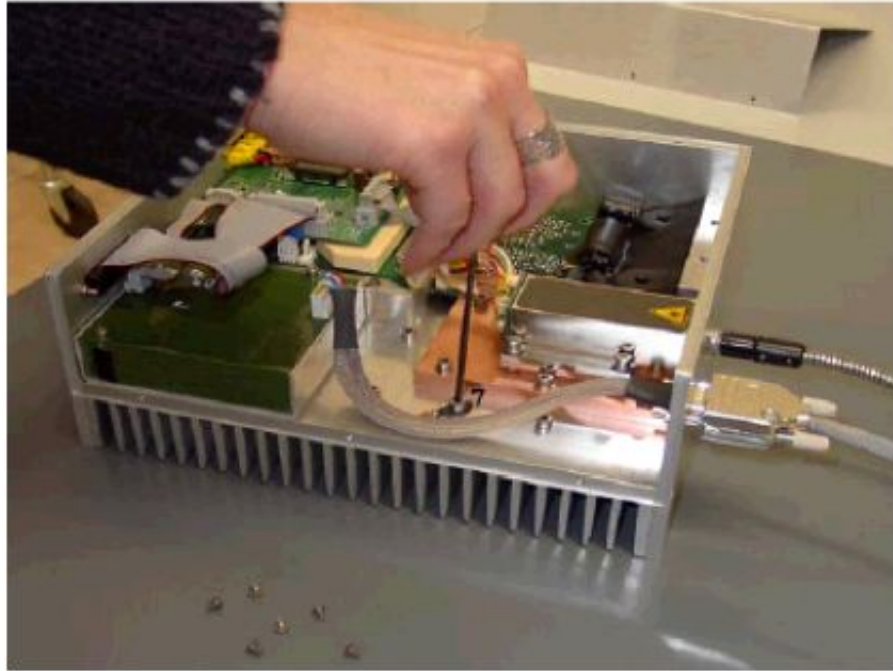

fig. 4
3) Unscrew the screw (7) in fig. 4 to remove the shorting connectoe [fig.4]